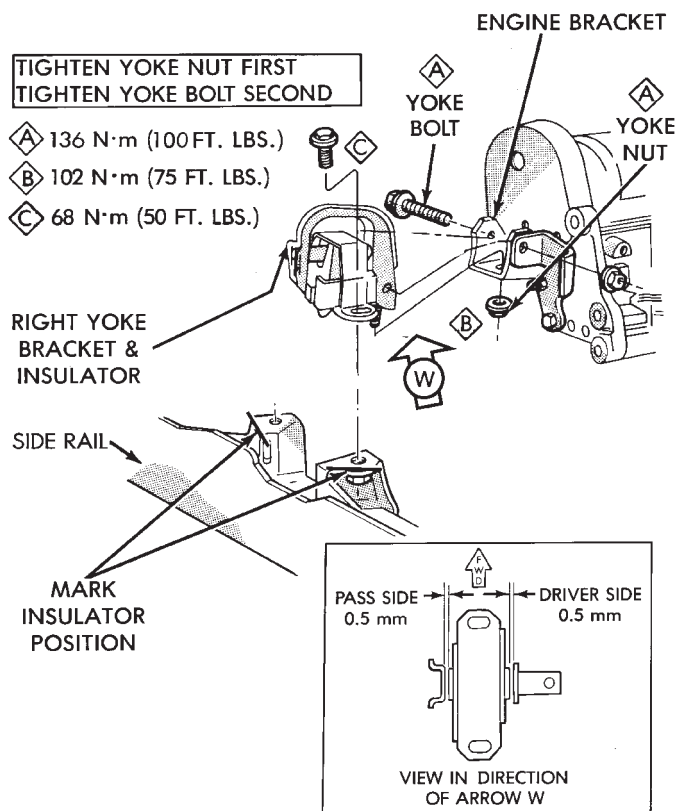

Fig. 5 Right Engine Mount
- (8) Separate right engine mount (Fig. 5) and raise engine slightly.